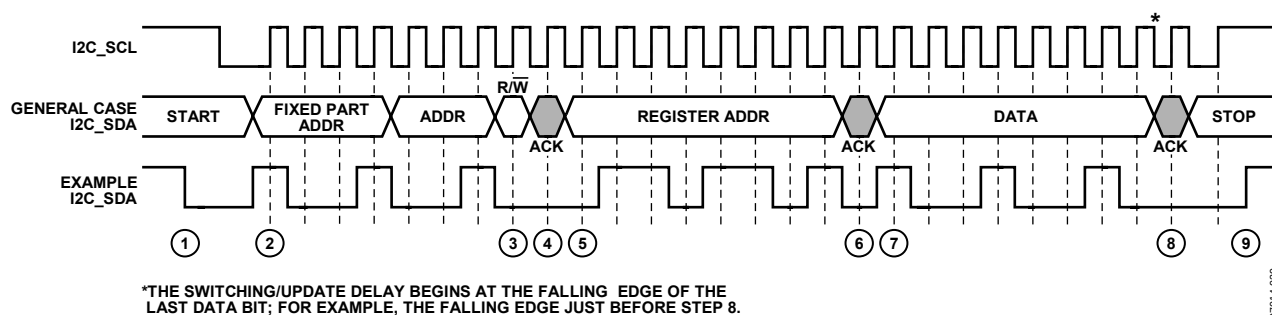

Figure 29. I2C Write Diagram
To write data to the AD8197A register set, an I2C master (such as a microcontroller) needs to send the appropriate control signals to the AD8197A slave device. The signals are controlled by the I2C master, unless otherwise specified. For a diagram of the procedure, see Figure 29. The steps for a write procedure are as follows:
3. Send the write indicator bit (0).
- 9a. Send a stop condition (while holding the I2C\_SCL line high, pull the I2C\_SDA line high) and release control of the bus to end the transaction (shown in Figure 29).
There is a delay between when a user writes to the configuration registers of the AD8197A and when that state change takes physical effect. This update delay occurs regardless of whether the user programs the AD8197A via the serial or the parallel control interface. When using the serial control interface, the update delay begins at the falling edge of I2C\_SCL for the last data bit transferred, as shown in Figure 29. When using the parallel control interface, the update delay begins at the transition edge of the relevant parallel interface pin. This update delay is register specific and the times are specified in Table 1.